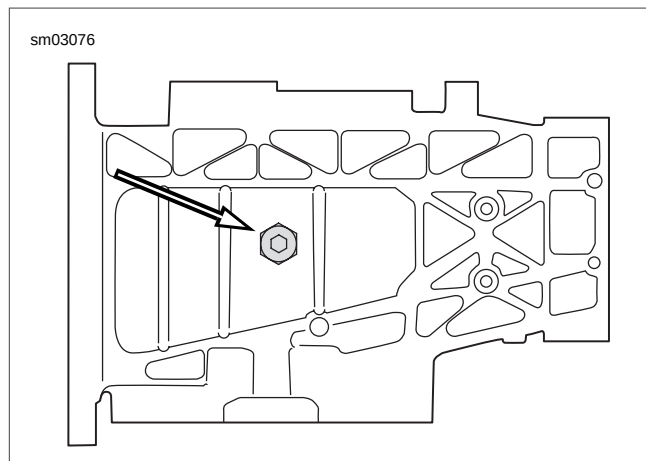

Figure 1-15. Transmission Drain Plug (Bottom View)
2. See Figure 1-15. Remove transmission drain plug. Drain lubricant into a suitable container.